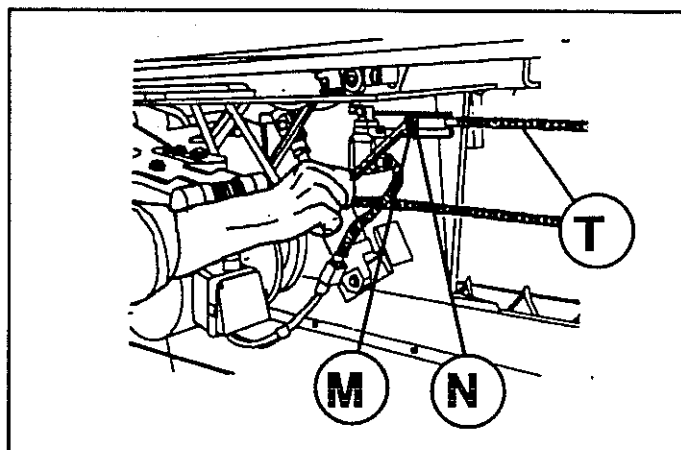

Fig.6.11
Withdraw the saw blade carriage proceeding as follows: remove the carriage pulling chain (T) after having loosened it by unscrewing the nut (M) and the lock nut (N fig.6.11)